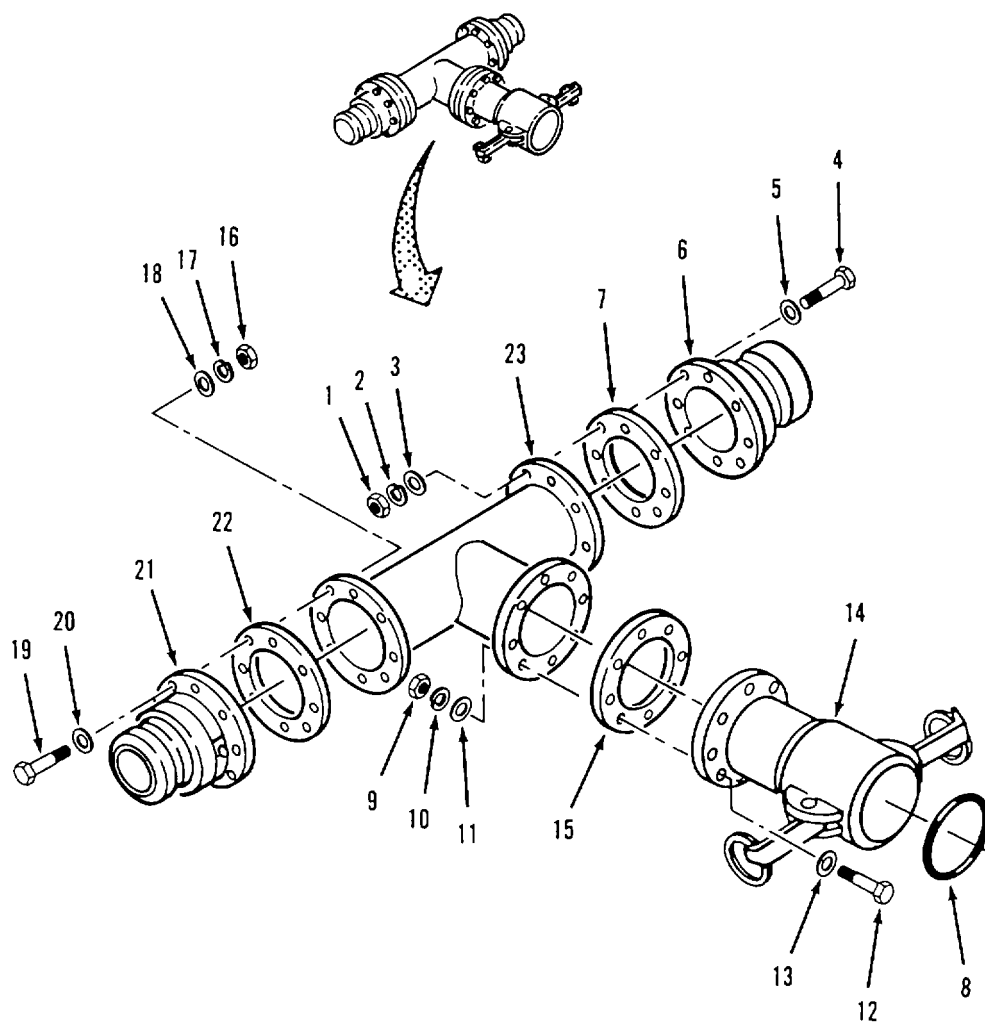

Figure 4-25. Tee Assembly (9112-Y4) Disassembly
- a. Disassembly. Refer to figure 4-25
- (1) Remove eight nuts (1), lockwashers (2), flat washers (3) and screws (4) and flat washers (5).
- (3) Separate male coupling (6) and gasket (7) from tee (23).